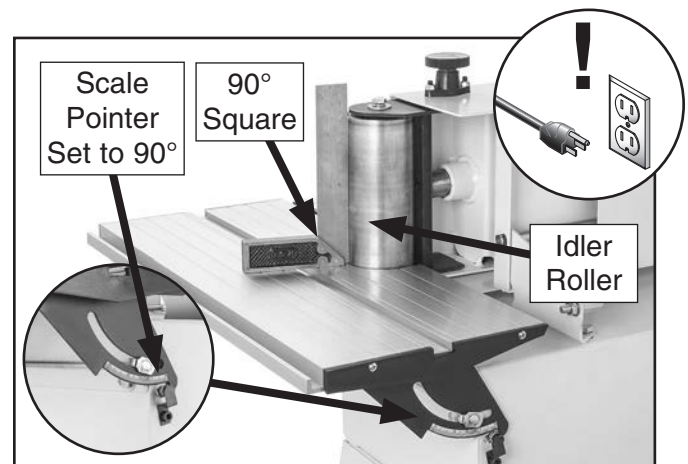

Figure 52. Calibrating end table tilt.
4. Set one edge of 90° square on end table surface and other edge against idler roller, as shown in **Figure 52**.
7. Loosen scale pointer cap screw (see **Figure 52**), adjust pointer to 90°, then tighten screw.